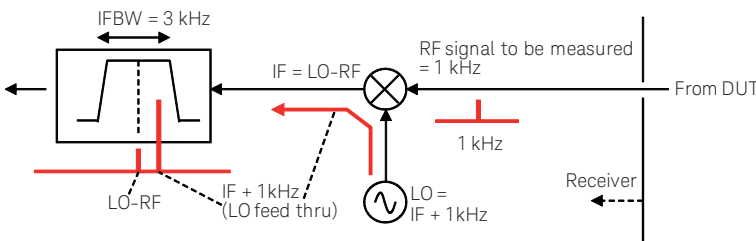

Figure 10. Measurement error caused by LO feed through
The IFBW (IF bandwidth) setting is one of the most common questions that many LF network analyzer users may first encounter. In high-frequency measurements, it is possible to use a wide IFBW for faster sweep speed, but for low-frequency measurements we need to set the IFBW to a narrow value to avoid measurement errors mainly caused by the LO feed through. For example, let's assume the case of measuring a high-attenuation device where start frequency = 1 kHz and IFBW = 3 kHz. The small signal attenuated by the DUT is up-converted to an intermediate frequency (IF) and passes through the IF filter of the receiver. Here the problem is that the leakage signal from the local oscillator (LO feed through) also passes through the IF filter because its frequency is very close to the IF frequency as shown in Figure 10, and this causes unwanted large measurement response.